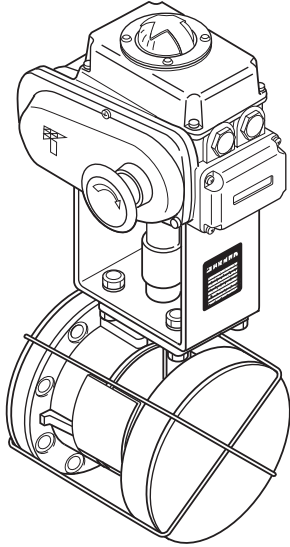

Fig. 1
- (1) A vinyl protective plate is attached to the flange face on the valve body (piping flange contact surface) in order to protect the seat ring. (Fig. 1)
- (2) The disc is shipped in the fully (or almost fully) closed position.
- (3) The valve has a nameplate with which you can verify information such as the nominal size and material. (Fig. 1)
- (4) The sheet face of the disc has been coated with a slight amount of silicon grease.